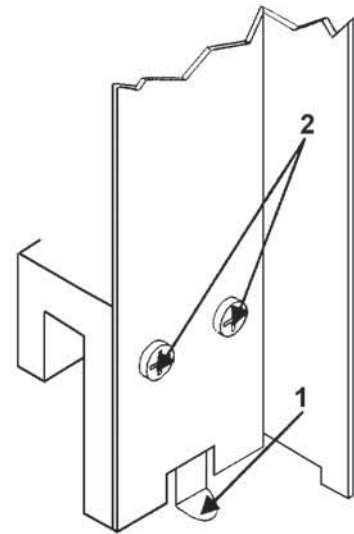

Figure 12
1. Misfeeding may occur if clips extend too far under envelopes. First increase vacuum and test run; then, if required, move clip [#1, Fig. 12] to front using set screw behind them.
Vertical position of clips is also adjustable. Loosen two screws [#2, Fig. 12] and position bottom of clip flush with bottom of Guide.